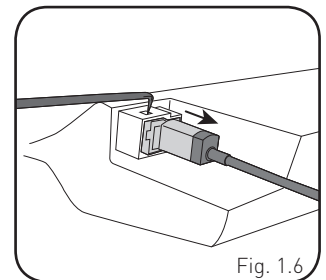

Fig. 1.6
7. Using a pick tool release the clips at the top and bottom to release the USB, remove USB and disconnect the harness. (Fig. 1.6)